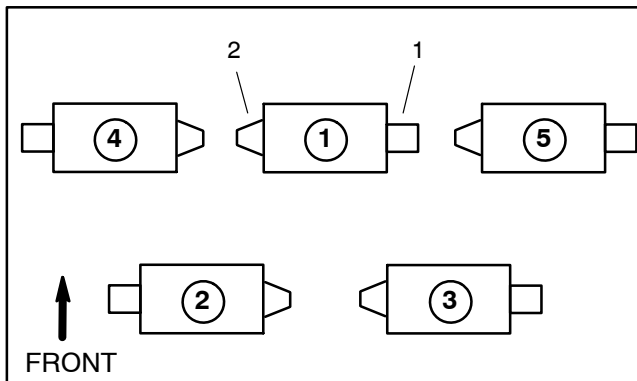

Figure 20
**NOTE:** Refer to Figure 20 for correct placement of cutting unit reel motors and weights.
4. Rotate the motor counterclockwise until the motor flanges are encircling the cap screws. Tighten two (2) cap screws to secure reel motor to cutting unit.